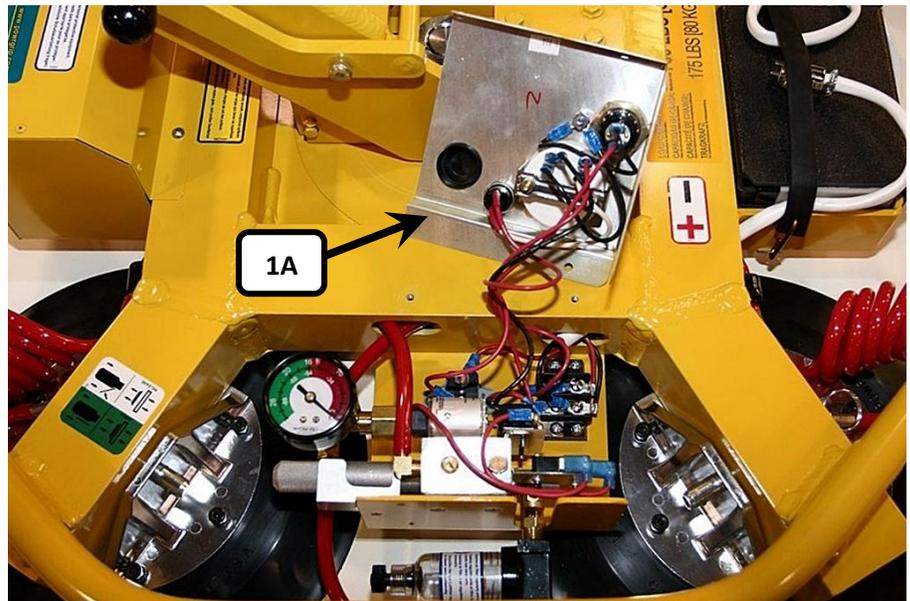

FIGURE 1
- 1) Carefully remove the valve enclosure cover (1A) and lay it to one side, so that exposed wire terminals do not touch any conductive material, as shown in **FIGURE 1**.